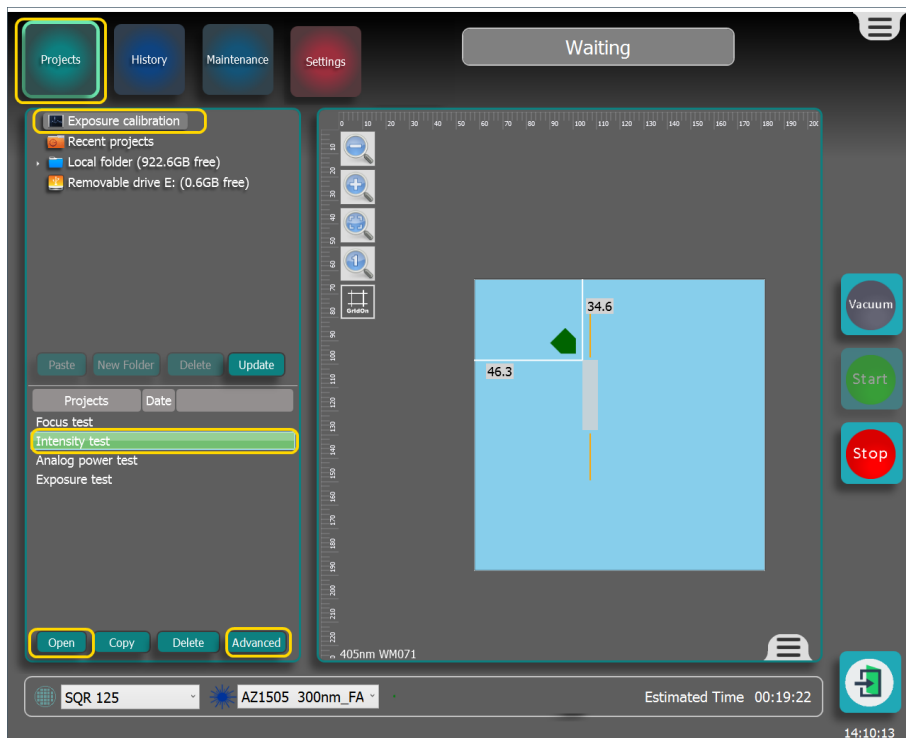

Figure 3-56 Starting the Intensity Test
2. To start the Intensity Test, select **Projects**, see Figure 3-56.